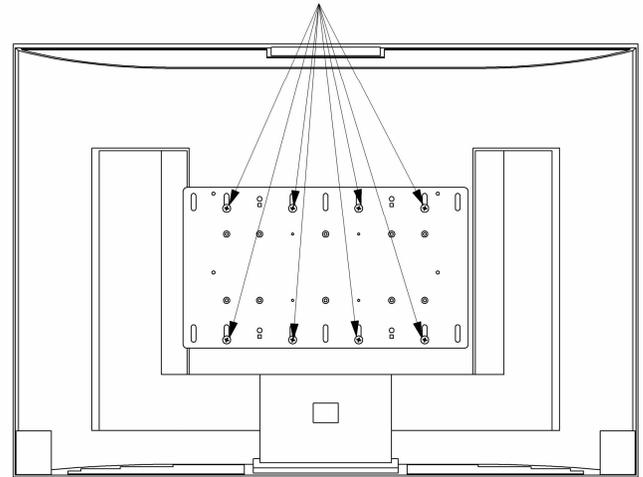

Figure 7. Display with 300mm x 200mm Hole Pattern
1. Select eight Phillips head M6 screws (110) from Bag B and eight spacers (120) from Bag C.
2. Attach the interface bracket (20) using the hole-pattern on the back of your display as shown in Figure 7.